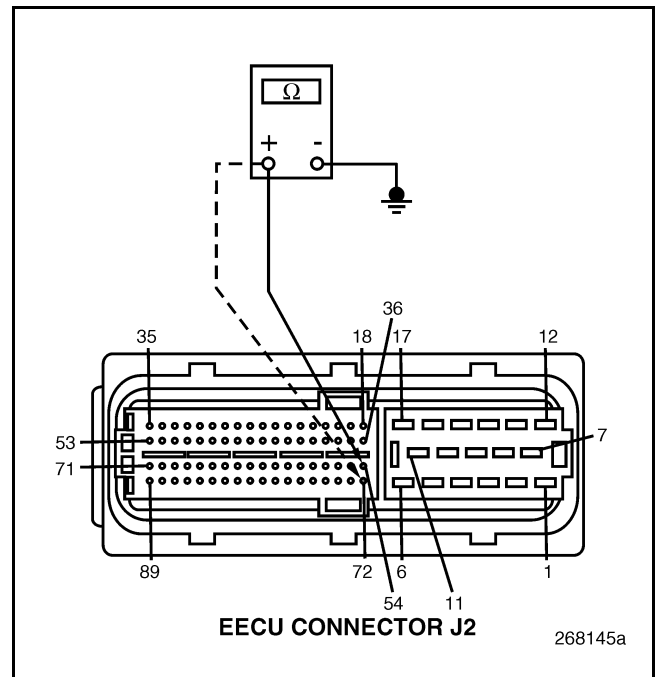

Figure 618
5. Check for continuity between EECU connector J2 pin 54 and a good ground (see Figure 618).
Check for continuity between EECU connector J2 pin 72 and a good ground (see Figure 618).